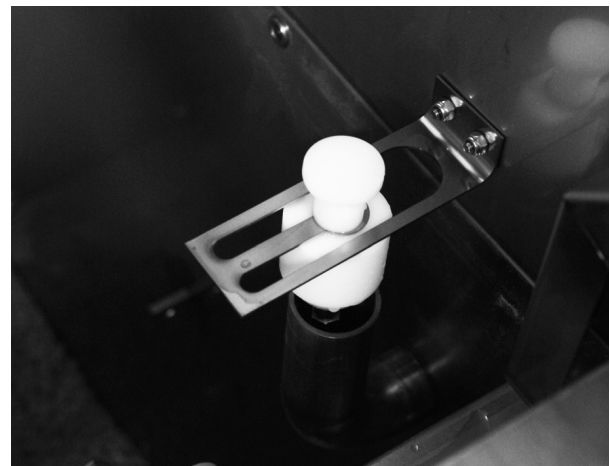

Figure 21: Overflow pipe
10. Check that the overflow pipe is functioning and clean if necessary. (see Figure 21 overflow drain cap)